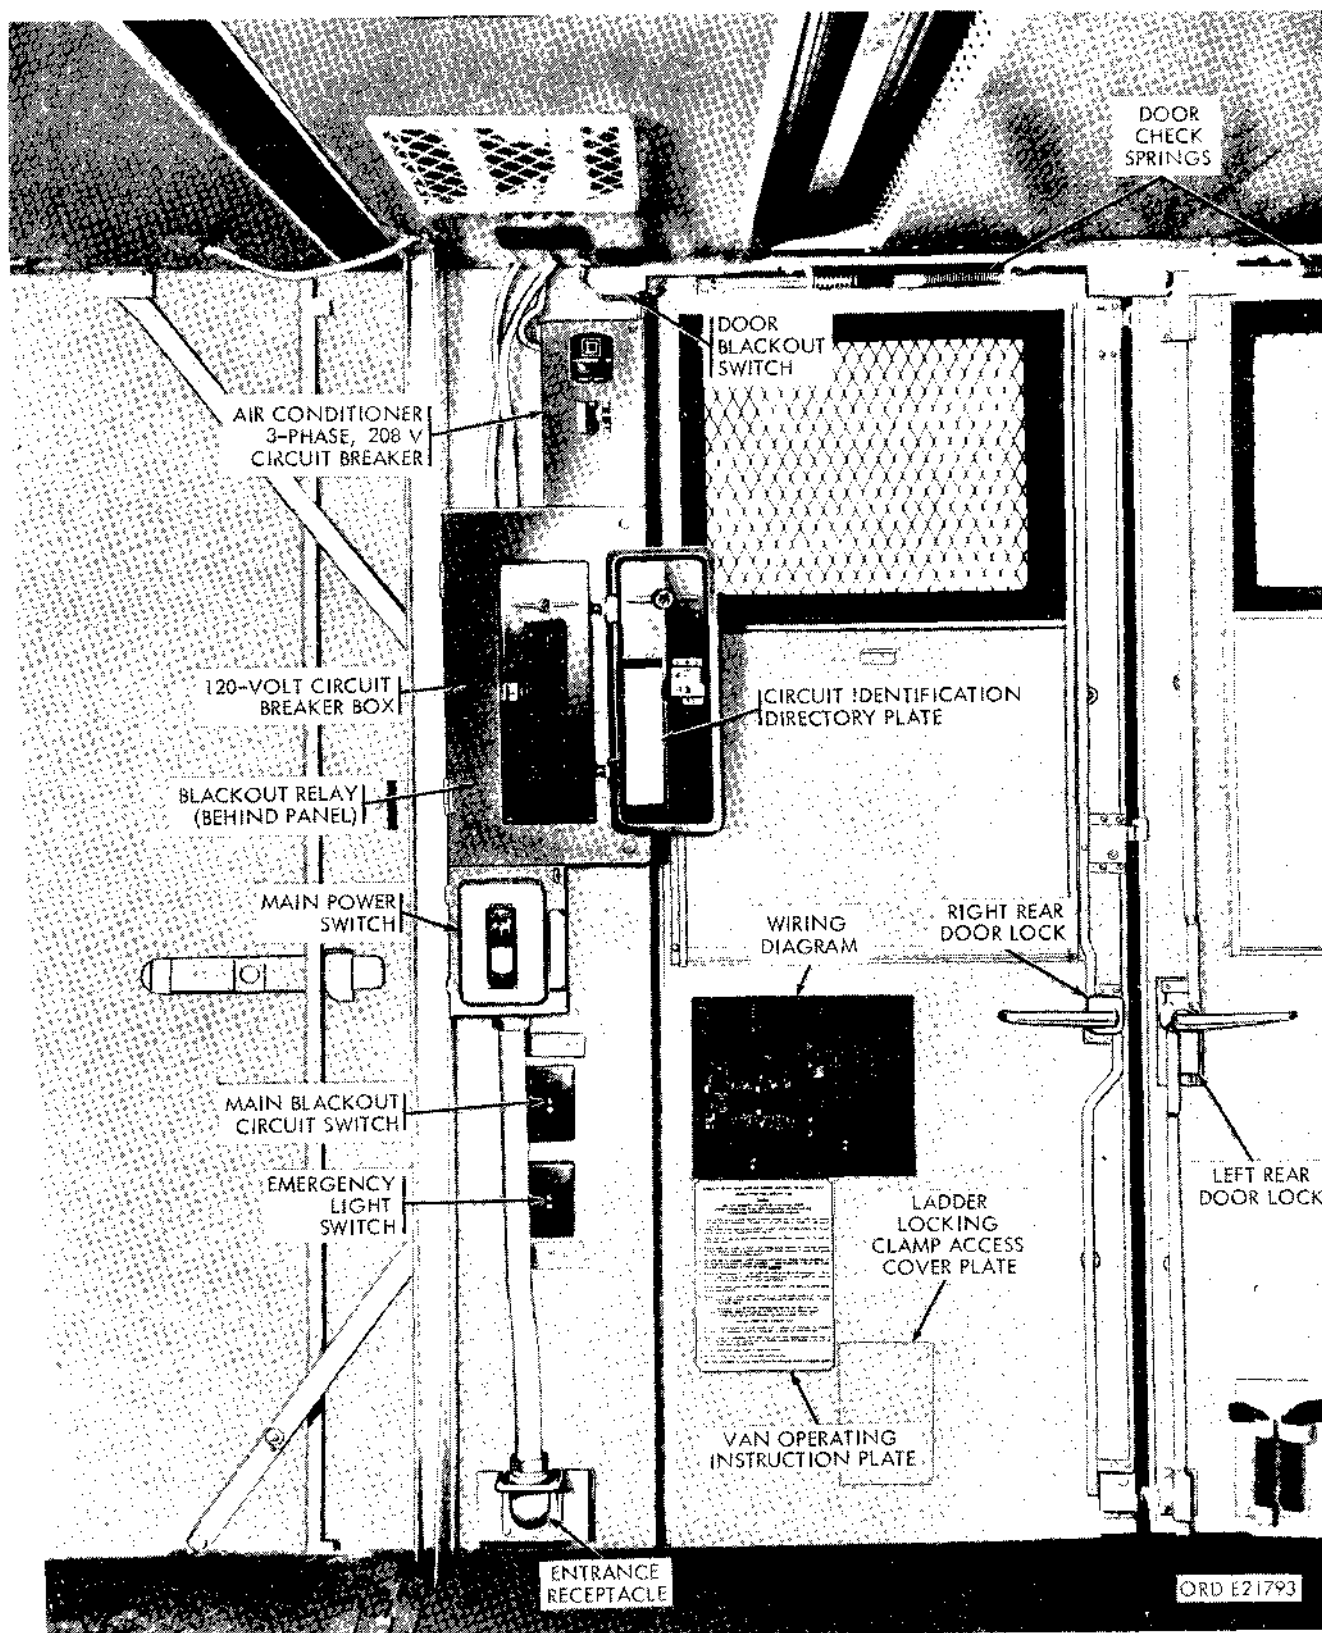

Figure 2-232. Van electrical controls.
(5) *Main power switch.* The main power switch (fig. 2-232) is provided to cut off all external power to the van body electrical system. It contains
(6) *110-volt circuit breaker box.* The 110-volt circuit breaker box (fig. 2-232) provides a distribution and control station for all equipment requiring 110-volt ac power. It contains 12 push type circuit breaker switches, electrically connected in three groups of four each. Each group is connected to one leg of the 3-phase power system, thus providing three individual 110-volt branch circuits. Six of the circuit breaker switches are used in the van body electrical system. The remaining six are available for use with tactical materiel installed in the van body, as required. The circuit breakers function as primary control switches for all 110-volt equipment, and also provide protection for overloaded circuits. The circuit breaker box is covered by a large door which provides access to the interior wiring compartment for maintenance. A smaller door, equipped with a lock and key, permits access to the circuit breaker switches. A circuit identification directory plate is attached to the inner side of the smaller door.
(7) *Blackout relay.* The blackout relay is located inside the circuit breaker box (fig. 2-232). It is a single-pole, double-throw, magnetic type rated at 60 amperes at 110 volts. The relay automatically interrupts the van lighting and receptacle circuits whenever the doors are opened, provided the main blackout circuit switch is in the ON position. However, the individual receptacle blackout switches can override the relay when the operating equipment must be in continuous operation or is not a blackout hazard.
(8) *Main blackout circuit switch.* The main blackout circuit switch (fig. 2-232) controls the blackout circuit. In the ON position, the switch includes the blackout relay in the lighting and receptacle circuits so that these circuits are interrupted by the door-operated switches. In the OFF position, the switch bypasses the blackout relay, eliminating the function of the door-operated switches.
(9) *Door-operated blackout switches.* Three 6-ampere, 110-volt, pushbutton type door-operated blackout switches (fig. 2-232) are located in the van wall near the top of the hinged sides of the two side
(15) *3-phase air condition circuit breaker.* The 3-phase air conditioner circuit breaker (fig. 2-232) is a 3-pole, 20-amp, 250-volt magnetic thermal type used to protect the air conditioner circuit and to shut off power to the air conditioner system during maintenance. It may also be utilized as an emergency switch for the air conditioner when necessary.
(16) 24-volt vehicle clearance and blackout lights are located on the upper front face of the bonnet and on the upper corners of the van rear panel. The clearance lights are placed above the blackout lights and are identical except that the front lights are equipped with amber lenses and the rear lights with red lenses. The clearance and blackout lights are controlled from the vehicle light switch in conjunction with the vehicle lighting system.
*a. Removal.* Working inside the van (fig. 2-232) remove the six screws attaching the cover plate to the rear door, and remove the cover plate. Working outside the van, remove the four nuts and lockwashers attaching the locking clamp to the rear door, and remove the locking clamp.
(Fig. 2-232 and 2-238).